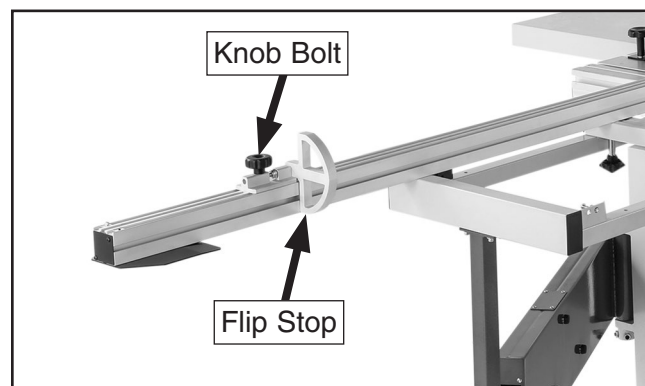

Figure 103. Location of flip stop and flip stop knob bolt.
4. Set flip stop to desired width of cut (see **Figure 103**) by loosening flip stop knob bolt, sliding flip stop until it aligns with desired mark on scale, then tightening knob bolt.